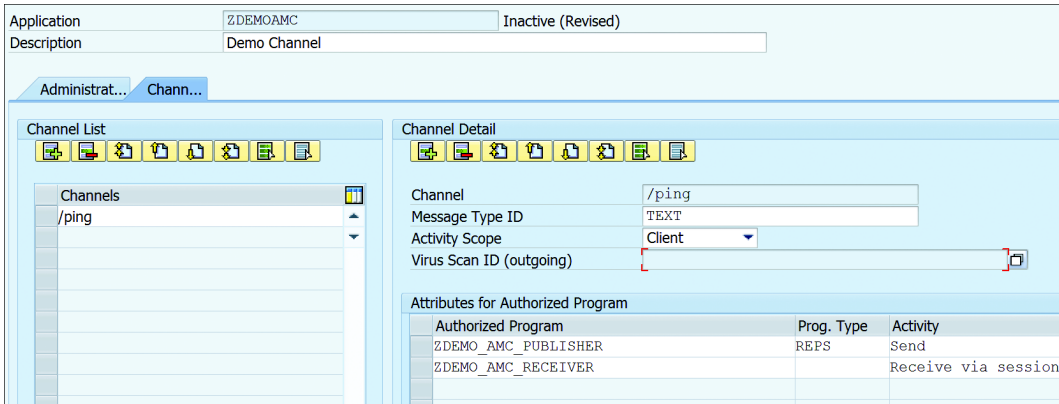

Figure 19.128 Channel Settings
3. Maintain a description for the channel and other details, as shown in Figure 19.128:
- ▶ **AUTHORIZED PROGRAMS:** The message channel can be used only by authorized programs to produce or subscribe to messages. Here, maintain the producer and consumer programs. For this example, we maintained one program to act as a producer and one program to act as a consumer (see Figure 19.128).